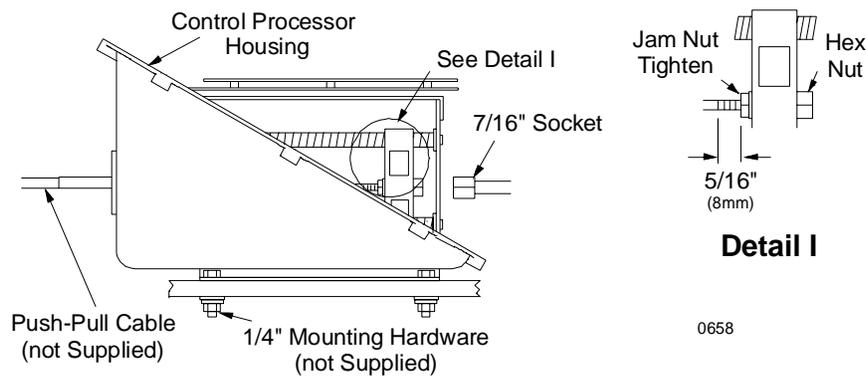

Figure 13: Push-Pull Cable Connection
- F) Connect the push-pull cable to the hex nut (See Figure 13:, Detail I). Use a 7/16-inch socket to turn the hex nut onto the cable rod end until there is approximately 5/16 inch (7,9mm) of thread showing beyond the jam nut.